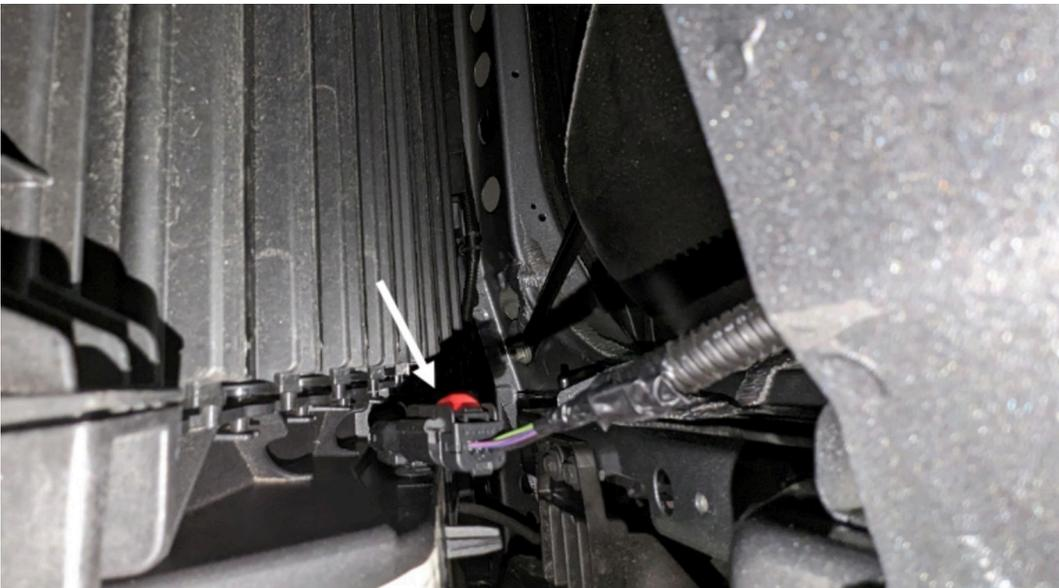

Figure 12
12. Disconnect the upper louver electrical harness and remove the upper louvers from the vehicle. Figure 12